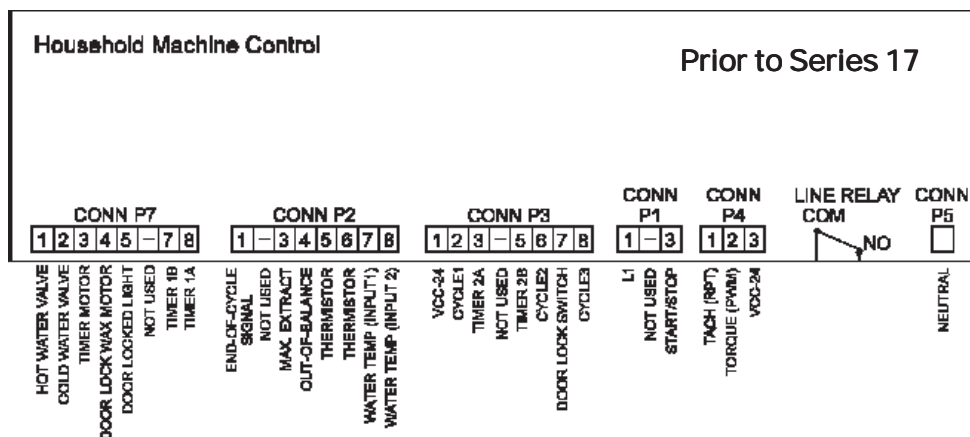

Figure 2-3
Check the water valve for electrical continuity. **This check should be made with the electrical supply disconnected from the washer.** Remove the wire harness from the water valve terminals and place the ohm meter probes on the terminals of the water valve. The water valve solenoid coil should have a resistance between 500-1000 ohms. If no ohms are shown on the display of the electrical test meter, the solenoid coil has an open winding and the valve should be replaced. The thermistor in the water valve changes in resistance in direct relationship to water temperatures. To monitor the performance of the thermistor, run a partial hot water fill and check the ohm resistance of the thermistor circuit. Then, run a cold water fill and measure the resistance again. There should be a notable difference in the resistance readings. To check the ohm resistance, pull the P2 wire harness connector off the machine control and locate the P2(5) and P2(6) leads in the connector (*Figure 2-3*).